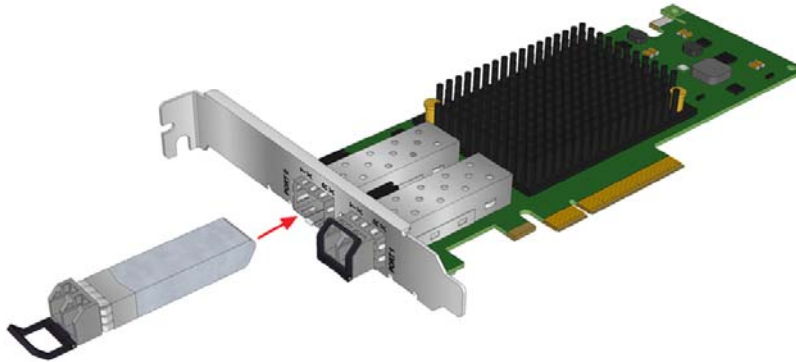

Figure 3-3 Installing an Optical Transceiver for the OCe14000-series -NM/-UM Adapters
1. Connect the optical cable to the adapter. When connecting an optical cable, ensure that the cages have optical transceivers installed in them (Figure 3-3 on page 21).